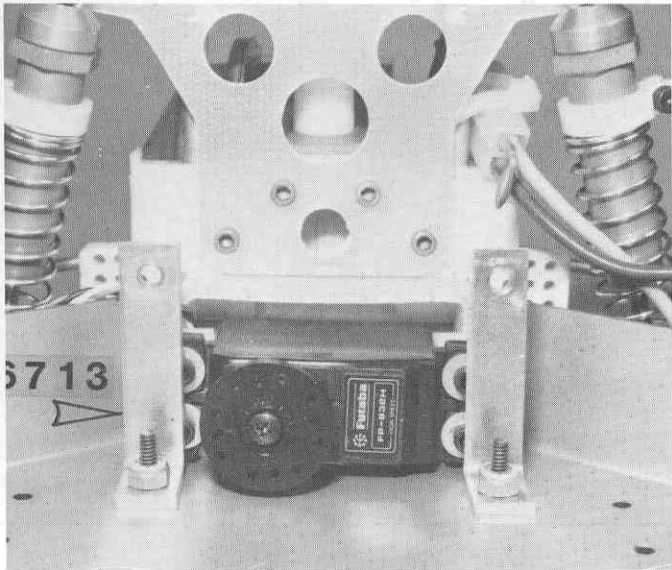

Fig. 152
□ **Fig. 152** From Bag #6-13, install the 2 #6713 resistor brackets with 2 flathead Allen screws and locknuts, as shown. Note that the brackets will be turned differently if you are installing a medium or large servo (see special instructions that follow later).